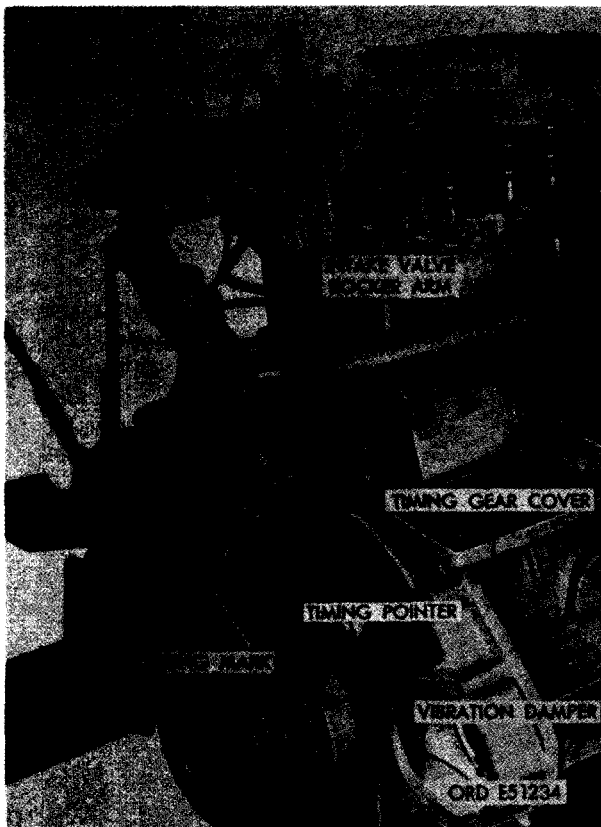

FIGURE 494. CHECKING ENGINE TIMING PRIOR TO FUEL INJECTION PUMP INSTALLATION.
b. Check Engine Timing Before Installing Fuel Injection Pump (fig. 494).
- (1) Rotate crankshaft clockwise, as viewed from fan end, until cylinder No. 1 intake and exhaust valves are closed. When valve clearance is evident at both rocker arms, both valves are closed.
- (2) The timing mark on the vibration damper and pulley assembly must be alined with the pointer on timing gear cover.